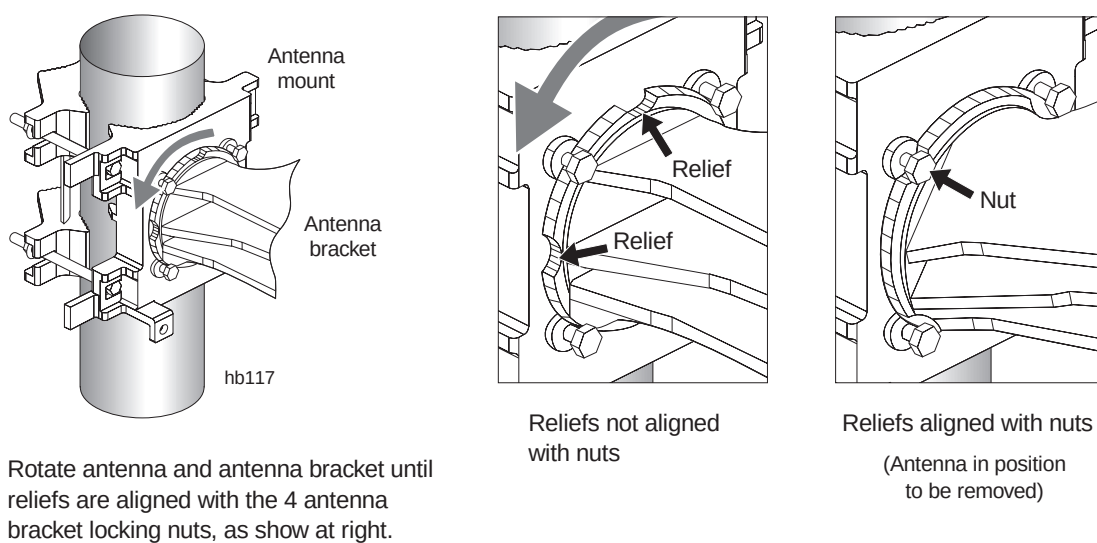

Figure 10-4 Removing the antenna
3. Rotate the antenna (clockwise or counterclockwise) until the antenna bracket reliefs (curved indentations) are aligned with the four nuts on the mast interface, as shown in figure 10-4.